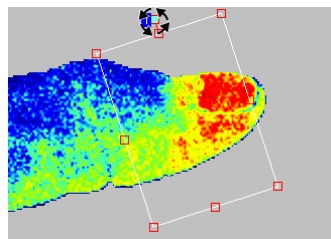

Figure 7-6 Rotate a ROI.
4. If needed, rotate the ROI: select the ROI, place the cursor on top of the green handle. When the cursor symbol changes to four arrows in a circle, click and hold, then move in the desired direction of rotation, see Figure 7-6.